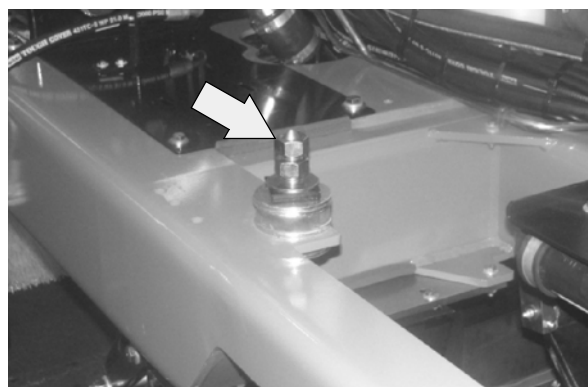

FIG. 16
28. Remove the M20 hex nuts and washers holding the cab down to the machine. Set the hex nuts and washers aside. Refer to Fig. 16.